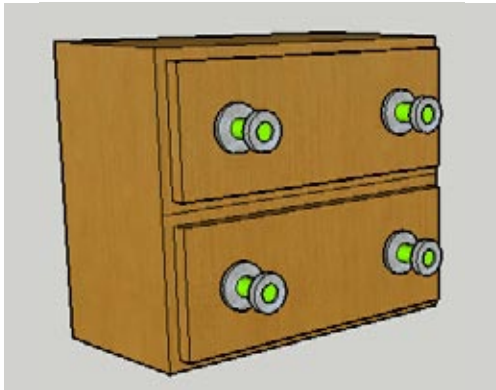

Figure 7-27
7. To complete the dresser, find the handle in the In Model folder and place a handle at the other side of the top drawer. Place two more on the bottom drawer, as shown in Figure 7-27. Then erase or hide the construction lines.